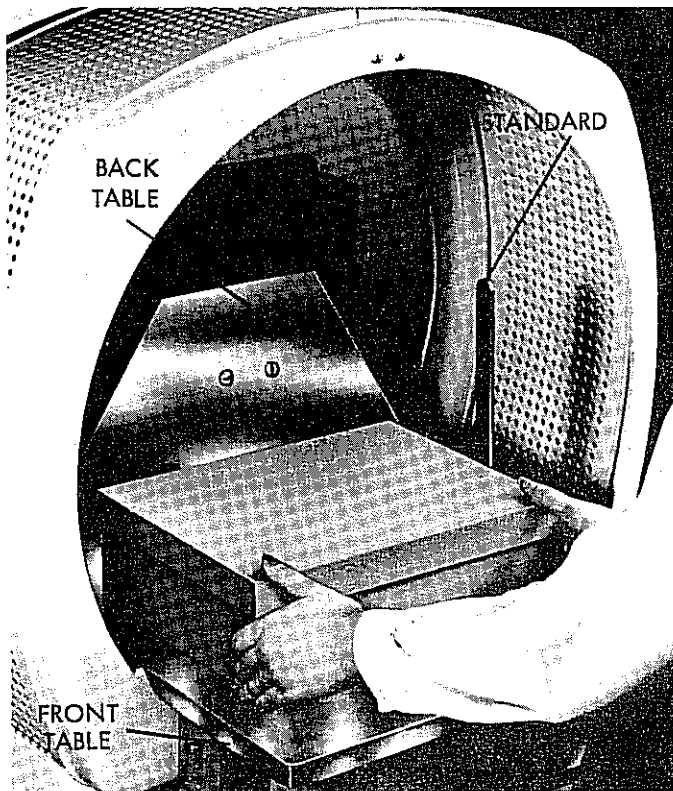

Figure 26. Positioning Package for Tying
3. Hold ends of package between thumbs and forefingers of both hands and position package on tying machine table so that right side of package is butted against standard (figure 26) and positioned over gap between front and back tables.